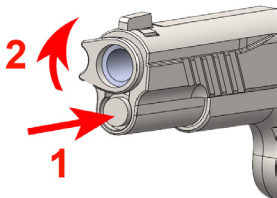

Figure 27
- While wearing safety glasses, depress the recoil spring plug into the slide so that the barrel bushing can be rotated. While holding downward pressure on the recoil spring plug, rotate the barrel bushing clockwise to clear the recoil spring plug– Figure 27. Be sure to control the recoil spring plug as the barrel bushing rotates. Once the barrel bushing has rotated far enough, the recoil spring plug will be pushed outward by the recoil spring.